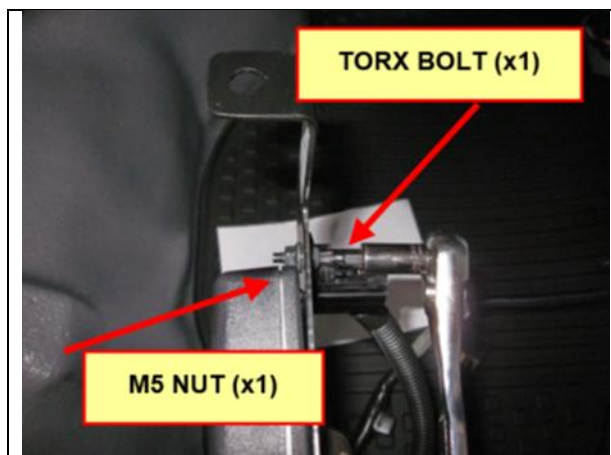

Figure 7
2. Remove the support bracket and relay mounting nut and bolt. Place the bracket and relay in a safe place, as these will be reused for the retrofit. (See Figure 7.)